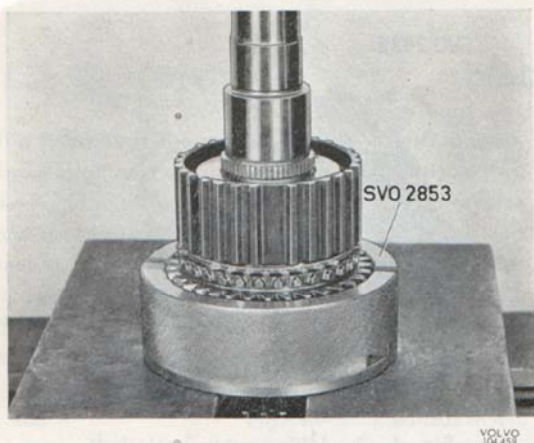

Fig. 4-9. Dismantling the mainshaft, I
3. Fit tool SVO 2853 on the mainshaft. Place the shaft in a press and place a support under the tool as shown in Fig. 4-9. Press off the 2nd